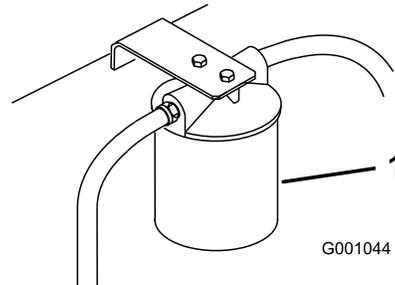

Figure 98
- Place drain pan under filter, remove the old filter and wipe the filter adapter gasket surface clean (Figure 98).